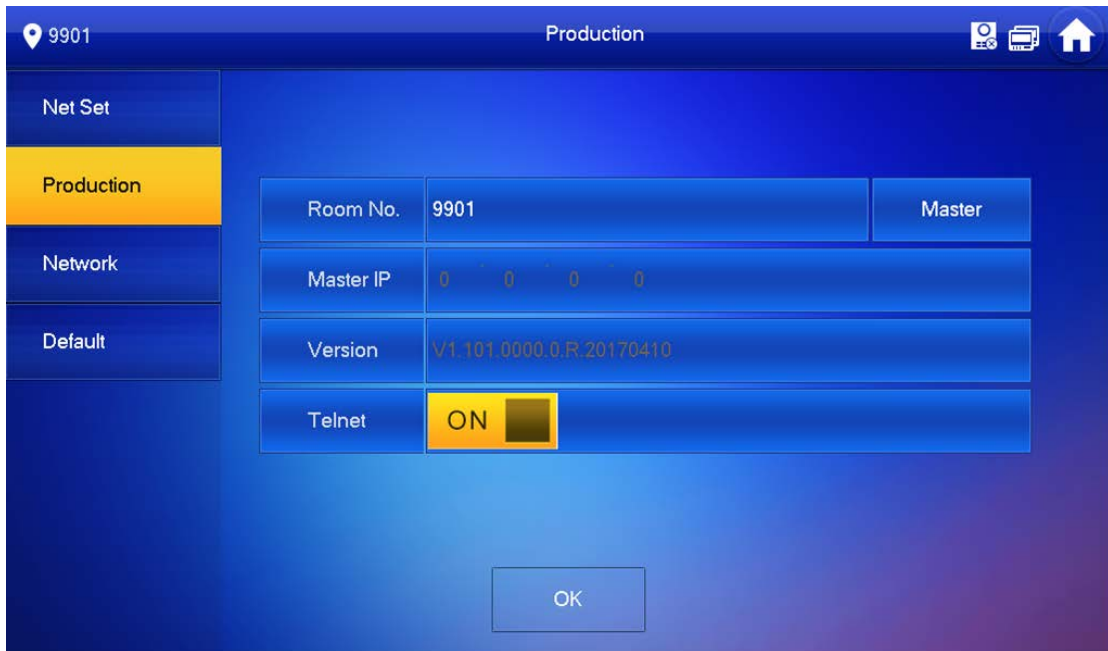

Figure 3-11
See Figure 3-11.
- If you set this VTH to be main VTH, select host. Fill in room no., click OK to save. See Figure 3-11.